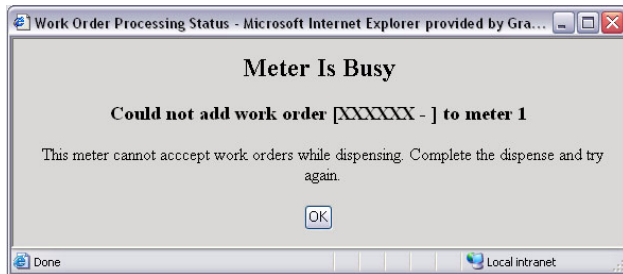

FIG. 58 Meter Is Busy
3. **Meter is Busy** See FIG. 58. This message appears when the PC has received an Activate message from the meter being addressed. No RF communication is attempted when this screen appears. Attempt to send the work order again when the meter has completed processing the active work order.